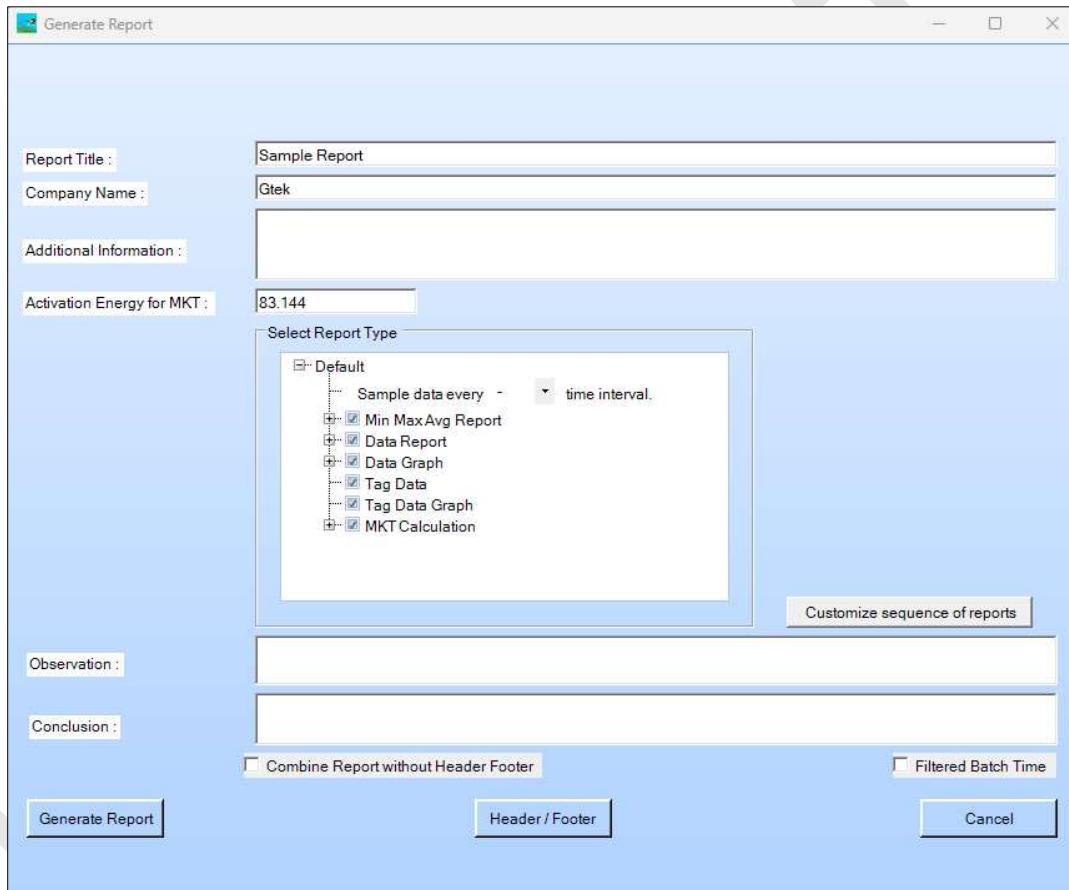

Figure 27 Fill up the options to generate the PDF Data report
- To generate the PDF report, click on the  icon and fill up the details to be included in the PDF data report as shown in figure 27.